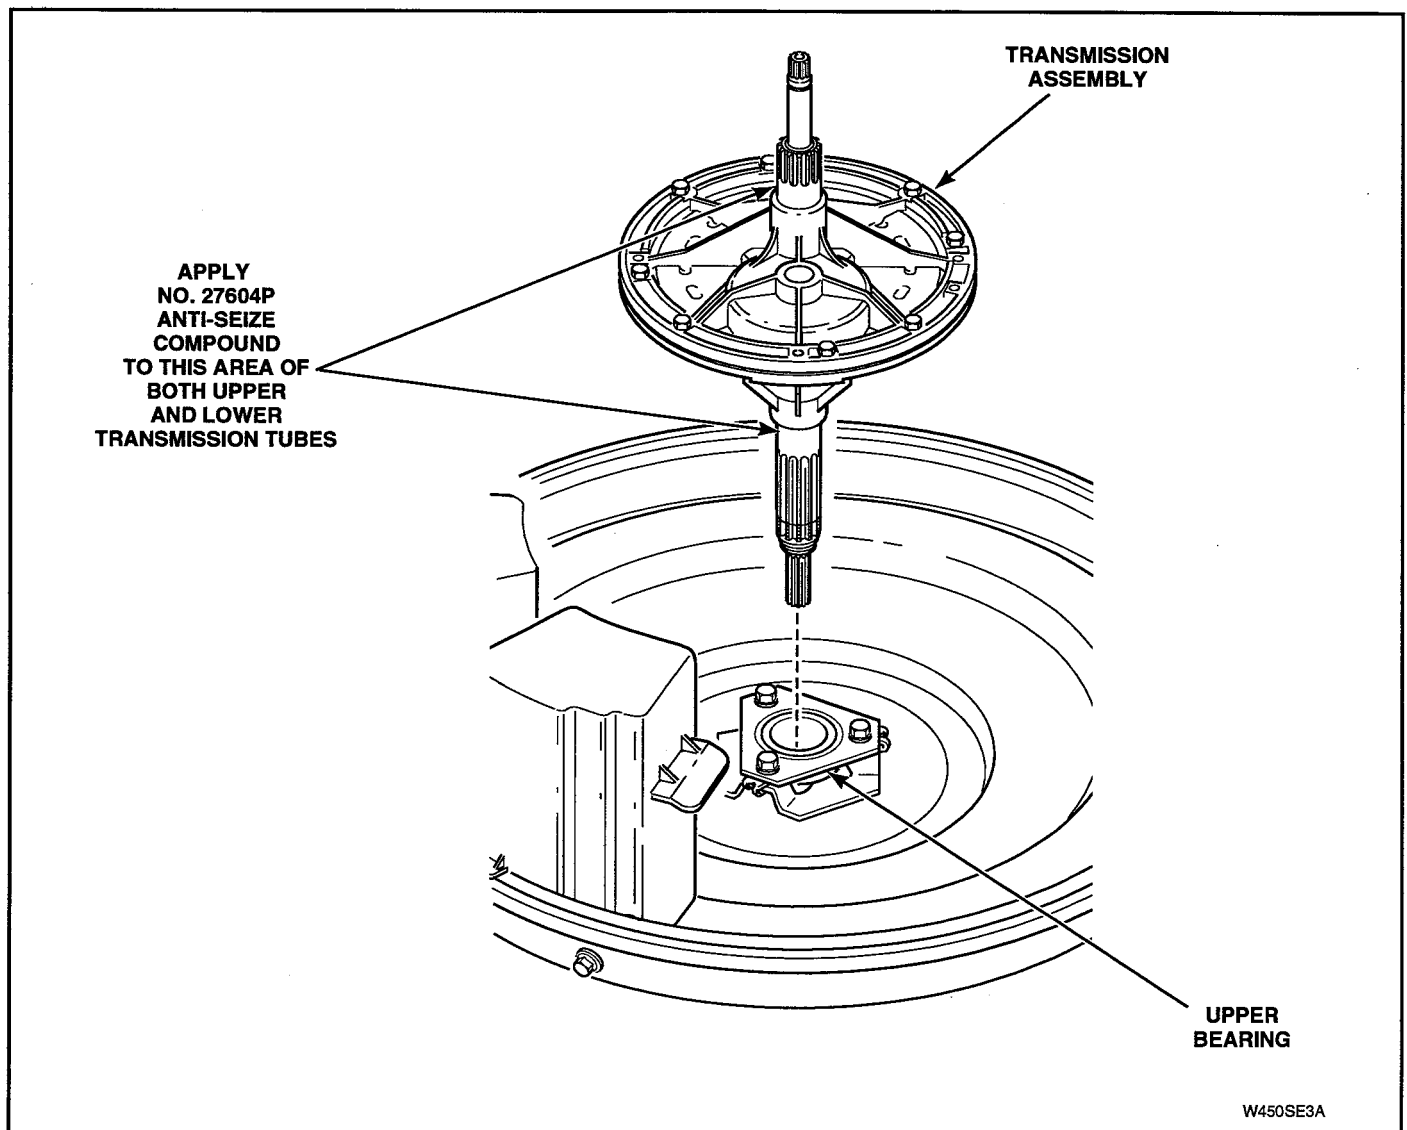

Figure 5-40
NOTE: When installing lower bearing, weldment assembly and brake assembly, apply No. 27604P Anti-Seize Compound to area of transmission tube that will be contacting bearing. See Figure 5-40.
IMPORTANT: When replacing or reinstalling transmission assembly, it is important that No. 27604P Anti-Seize Compound be applied to area of the transmission tubes where they will be contacting upper and lower bearings. See Figure 5-40.
- q. Apply Anti-Seize Compound, No. 27604P, to smooth area of both transmission tubes that will be contacting upper and lower bearings. See Figure 5-40.